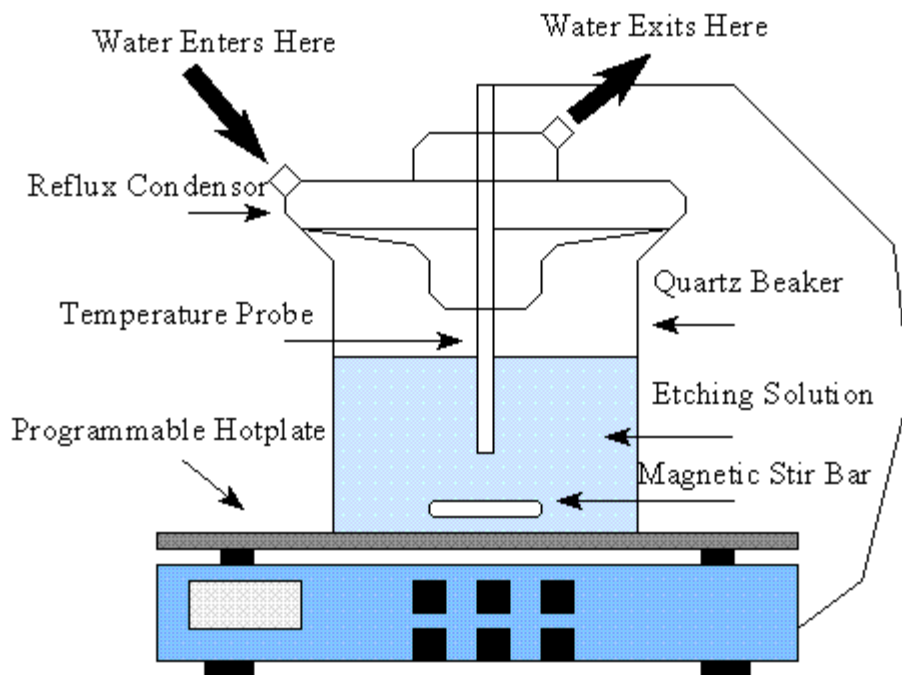

Figure 1. Bulk micromachining
1. Review the Bulk micromachining diagram (Fig 1)